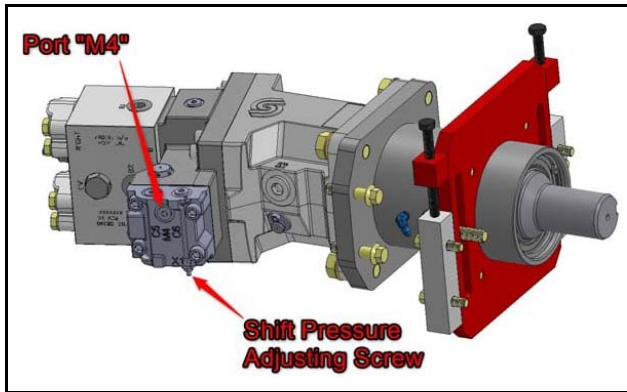

Figure 33
1. Connect a pressure gauge on the hydraulic motor port M4; Pressure gauge range must be the same as the maximum pressure expected in the system [Figure 33].